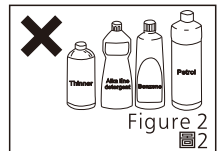

Figure 2
- Never use petrol, benzene thinner or any other such chemicals for cleaning the product. (Figure 2)